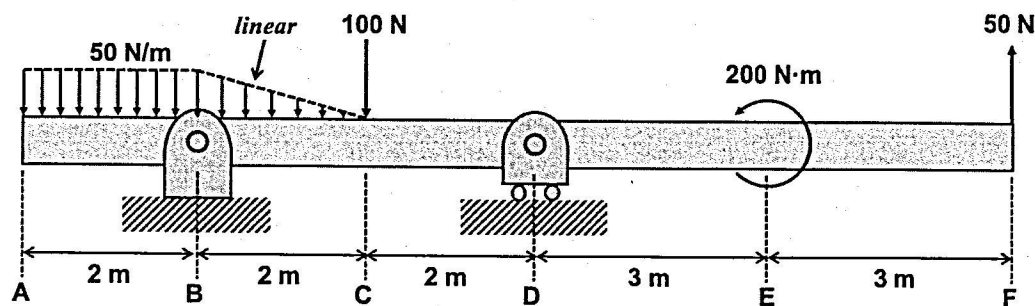

Fig. 4
3. [25 Points] A simply supported beam, as shown in Fig. 4, is 12 m long and supported by a pin joint at B and a roller joint at D. Based on the given loads, develop the shear force (unit: N) and bending moment (unit: N·m) diagrams for the beam. Indicate the numerical values at points A to F, as well as the maximum and minimum values, on both the shear force and bending moment diagrams, respectively.